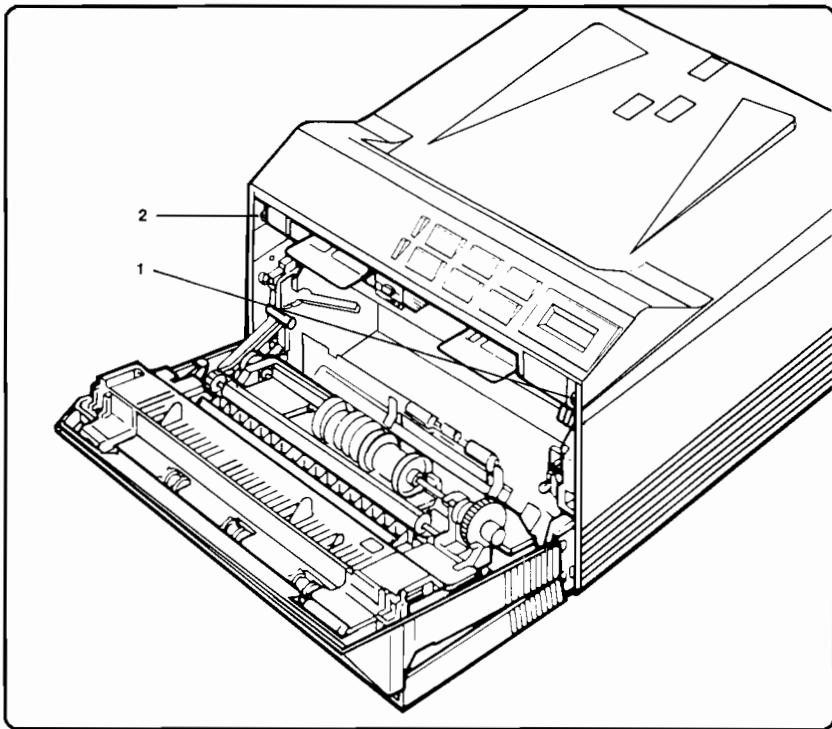
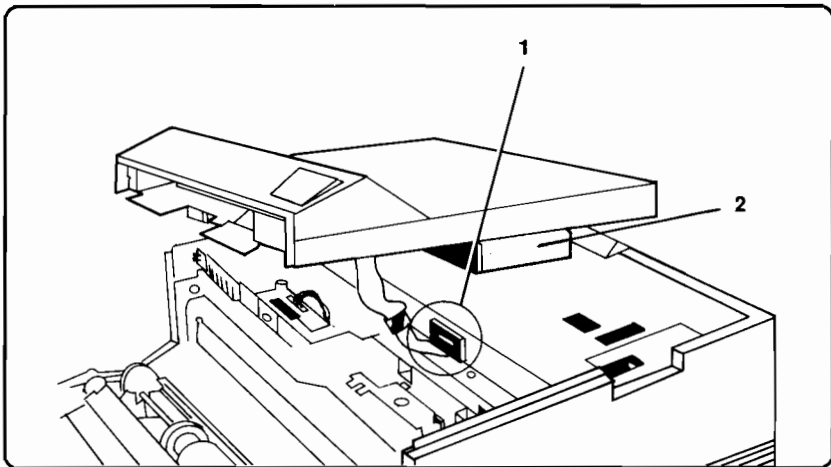

Figure 6-16. Top Cover Removal
Figure 6-17. Top Cover Removal (continued)
2. From the front of the printer, open the Paper Path Door. Remove the right screw (Figure 6-16, callout 1) and loosen the left screw (see Figure 6-16, callout 2) securing the Top Cover.
3. Raise the Top Cover slightly and disconnect the Control Panel Cable from the Formatter PCA (Figure 6-17, callout 1).
When replacing the Top Cover, be sure to align the font cartridge door correctly (Figure 6-17, callout 2).
1. Remove the Top Cover (see Figure 6-16 and Figure 6-17). Turn the cover upside-down.
1. Remove the Top Cover (see Figure 6-16 and Figure 6-17).